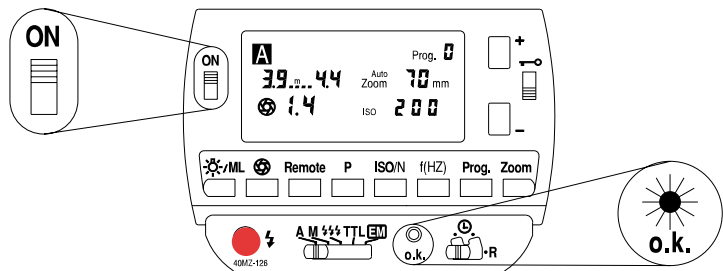

Fig. 24: Exposure o.k.
1 The test flash is triggered with the manual firing button ⑭ (fig. 24).